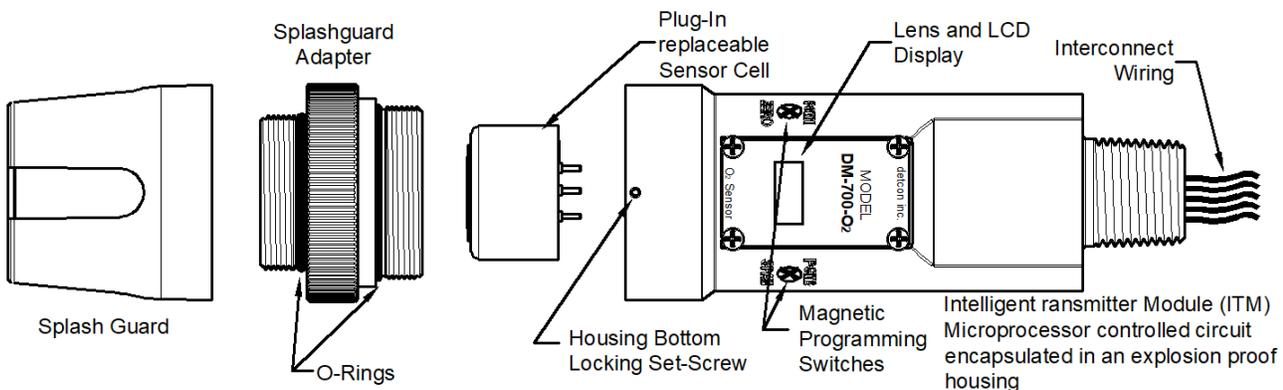

Figure 39 Sensor Assembly
- g) Feed the sensor assembly wires through the 3/4" female NPT mounting hole and thread the assembly into the J-box until tight and the ITM lens faces toward the front access point. Connect the sensor assembly wires inside J-Box (Refer to Section 7.2.6, and Figure 39).
- e) Feed the new DM-700 sensor assembly wires through the 3/4" female NPT mounting hole and thread the assembly into the J-box until tight and the ITM lens faces toward the front access point. Connect the sensor assembly wires inside J-Box (Refer to 7.2.6, and Figure 39).